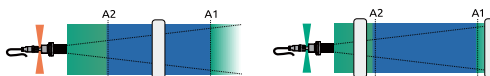

Figure 19 - Trigger on out of range: on approach (S < A2) or on approach (S > A1)
- The output signal toggles when an object is at a certain distance (S) within the configured range. The working principle is shown in Figure 19. When the object is not in or out of the set range, the output turns off. The user range needs to be set during operation: A1 > A2.